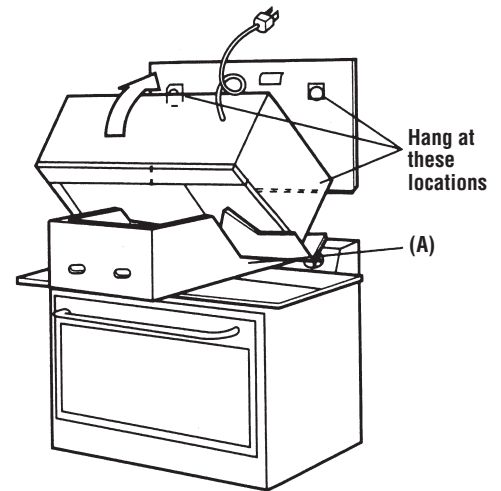

Figure 22
5. Hang the oven on the lower edge of the mounting plate. Rotate the unit upward. See Figure 22. Take care that the power cord is able to clear the edge of the hole as the oven is rotated upward. (In the case of a non-recessed bottom in the top cabinet, the hole for the cord may need to be enlarged.) Remove the carton portions.